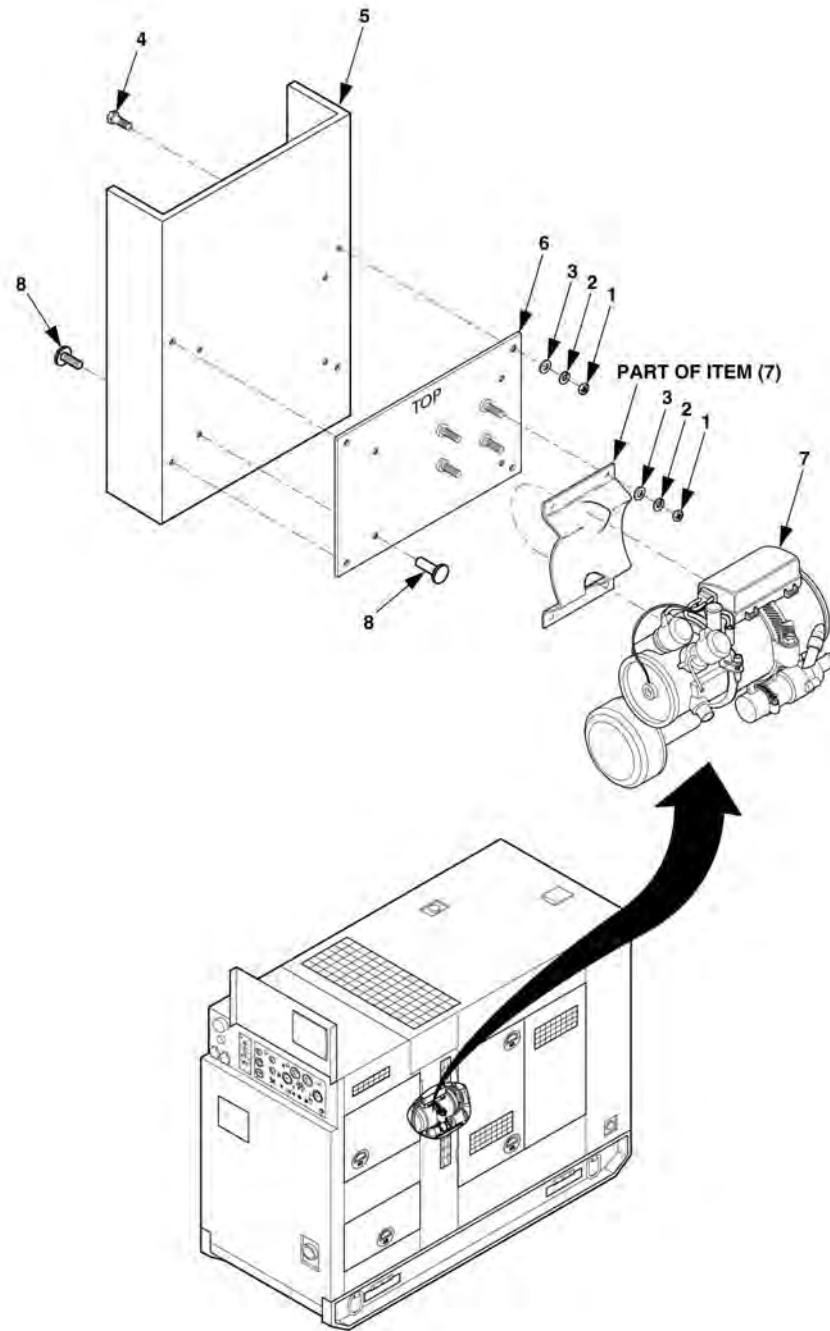

Figure 5-2. Heater Assembly
4. Remove the top 4 panel clips (8) from the baffle (5), Figure 5-2, save them because you will reinstall clips once the heater (7) is mounted.
5. Using mounting plate (6) mark and drill 4 9/32nds holes through baffle (5).
6. Attach mounting plate (6) to baffle (5) and secure using screws (4), flatwashers (3), lockwashers (2), and nuts (1). Attach the mounting brace (7) making sure the longer legs are towards the top of heater. Secure the brace using flatwashers (3), lockwashers (2), and nuts (1). Install clips (8) taken off in step 4.
8. Re-attach the baffle (5), Figure 5-2, with the heater mounted to it.